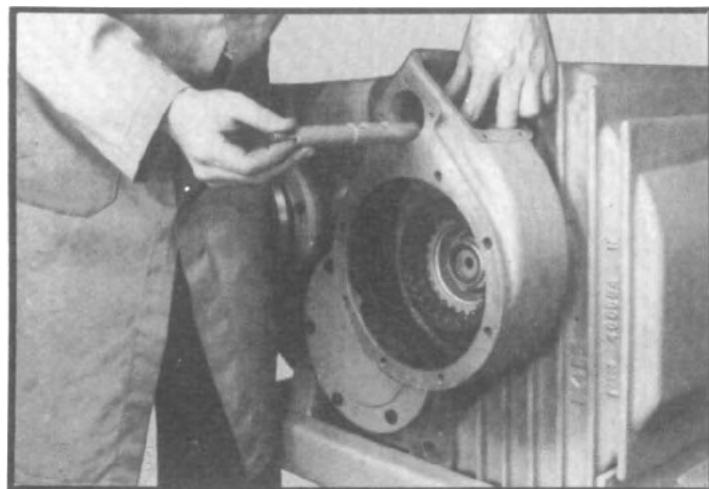

Fig. 176
3. Install shift shaft through shift fork and into PTO/declutch housing. Align two grooves in shaft with clamping screw holes. (See fig. 176)